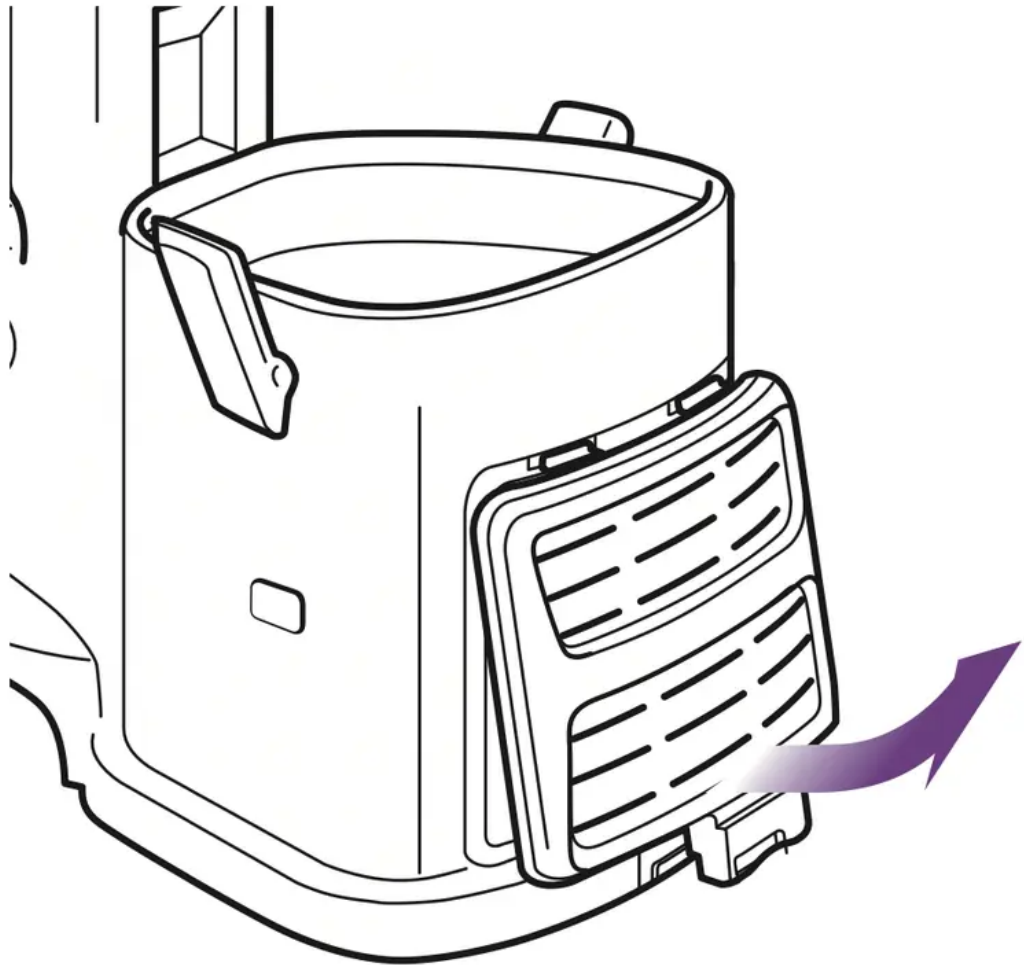

Fig. 23
1. Remove the filter cover from the front of the vacuum by pulling up on the tab and pulling the cover away from the vacuum. (Fig. 23)